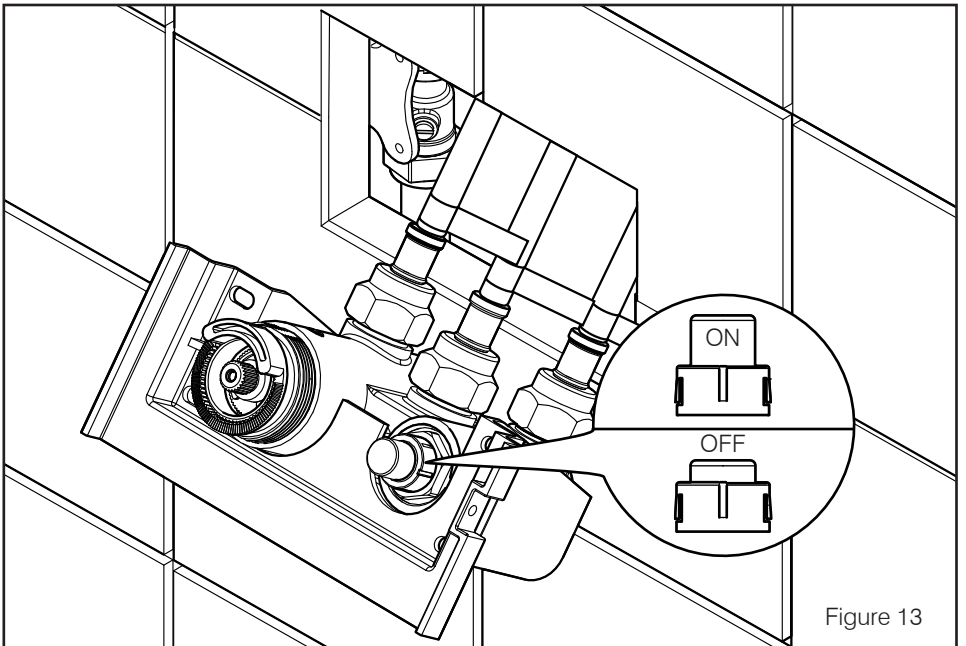

Figure 13
11. Working from left to right, using the labels as a guide, connect the hoses to the valve. Ensure the hose from the hot supply is connected to the inlet marked hot on the valve. Do the same for the cold supply. Ensuring the outlet button is in the 'OFF' position (Figure 13), turn the water supply back on at the isolation valve. Do not overtighten the hoses as this may damage the rubber washers.